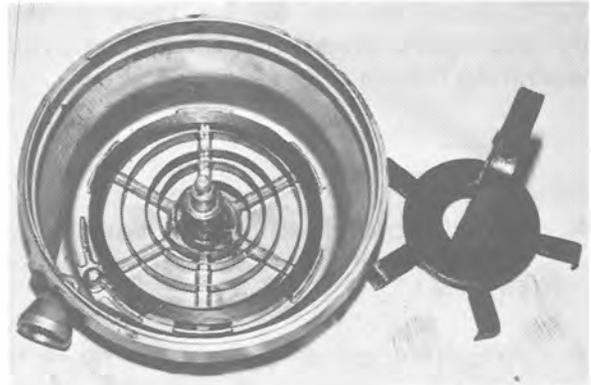

FIG. 1-57
- d. Secure the long rolled end of spring over the fixed spring retaining pin. (Fig. 1-56). Remove winding tool (Fig. 1-57). Apply a light film of Lubriplate, or equivalent, to spring.